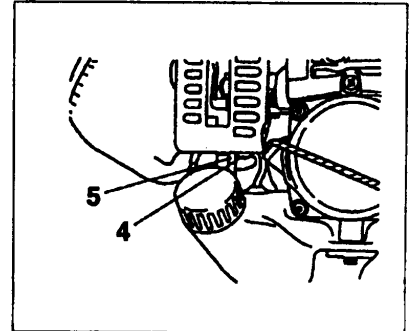

Fig. 2-2C
\*Push priming bulb (4) several times so that fuel flows through the bulb or return pipe (5). (If so equipped) (Fig. 2-2C)